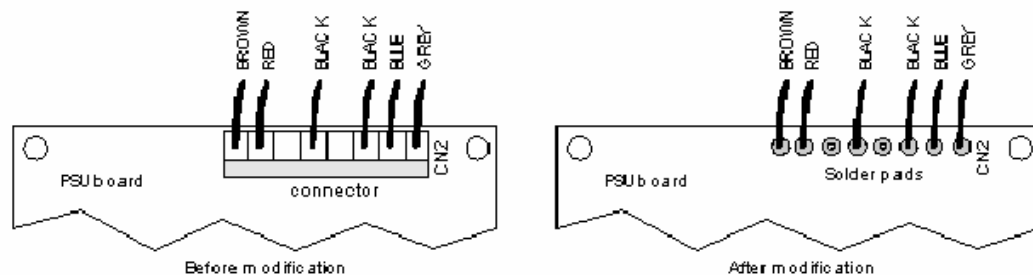

Fig. 1.
4. Locate the 8 pin connector named CN2 at the power supply board. There are only 6 wires mounted in the 8 pin connector. That is normal. See fig. 1.
9. Solder the wires directly into the power supply board. Take care to mount the wires at the correct position. See fig. 1.